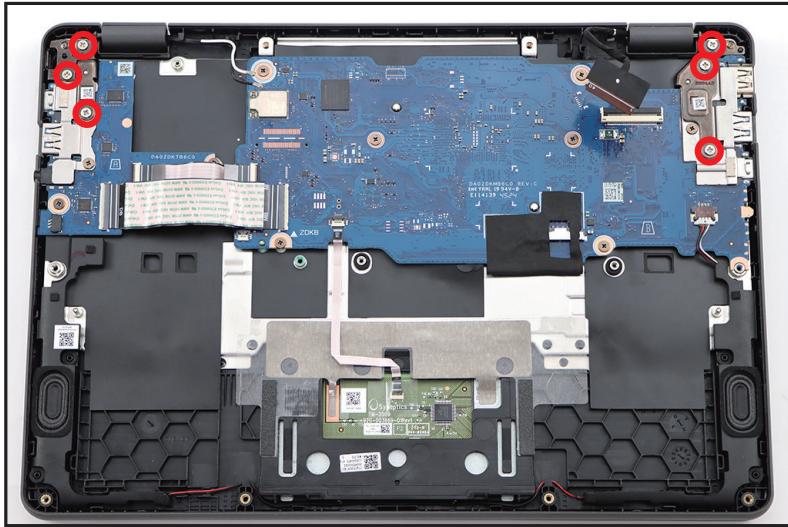

Figure 3-20. LCD Module Removal
3. Remove six (6) screws securing the LCD hinges (Figure 3-20).